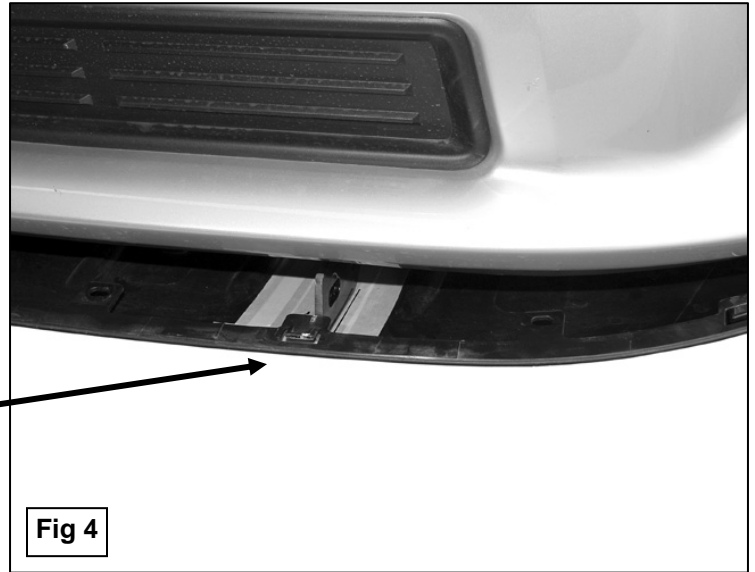
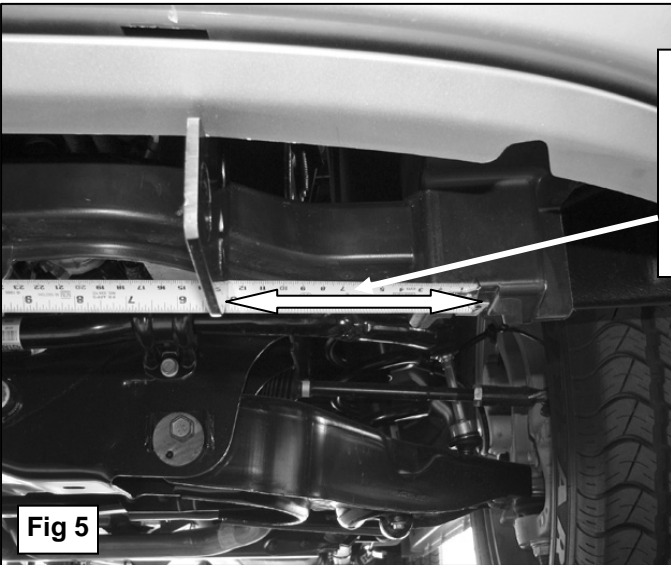

Fig 4
Fig 5
7. Hold the splash guard up to the bumper cover and align it with the mounting points. Mark the location of the Mounting Brackets onto the back of the splash guard, **(Figure 4)**. Measure the Brackets and the location of the mounting points before cutting to double check the location marked to cut, **(Figure 5)**. Cut an approximately 1/2" wide by 4" long slot in the splash guard as pictured in **Figure 6**. **NOTE:** The size of the slot is an estimate only and may vary due to different factory designs of splash guards and front bumper covers. Also, additional cutting may be required to clear the Support Bracket on vehicles equipped with tow hooks. Hold the Support Bracket in location to check for clearance and cut as required. **IMPORTANT:** To maintain the integrity of the splash guard, do not cut the slot any larger than necessary. It is recommended to make several small cuts and check the fit often for a clean installation.